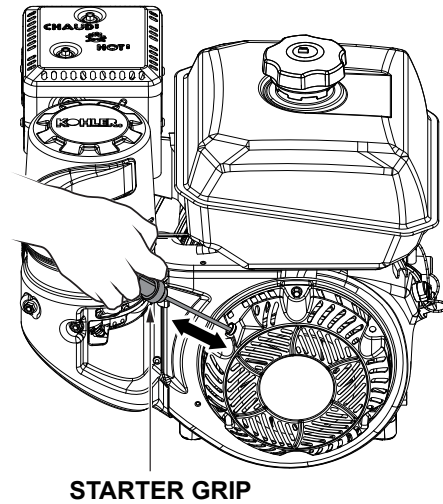

Figure 19. Starter Grip
6. Pull the **starter grip** (Figure 19) lightly until you feel resistance, then pull briskly. Return the starter grip gently.